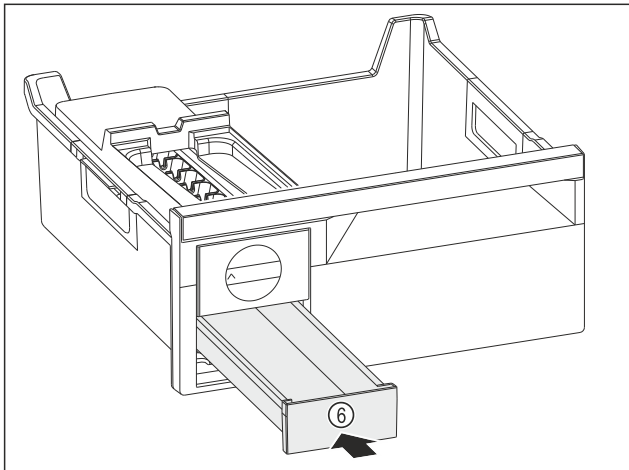

Fig. 217
- ▶ Insert the ice cube drawer Fig. 217 (6).